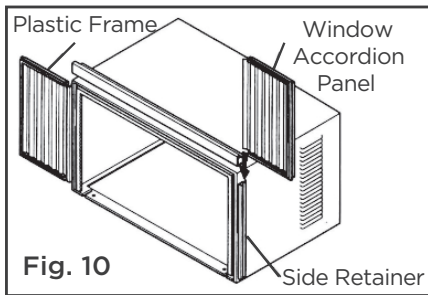

Fig. 10
2. Slide 1 section of window accordion panel into side retainer on the side of the cabinet (see Fig. 10 & Fig. 11). Do both sides.